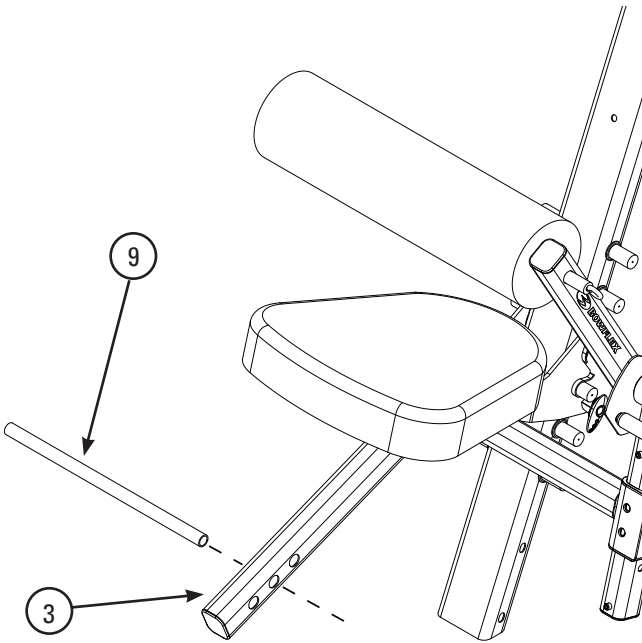

Figure 6a
- 6-1 Insert the Extension Tube (9) through the mounting hole in the Leg Extension (3). See **Figure 6a**.